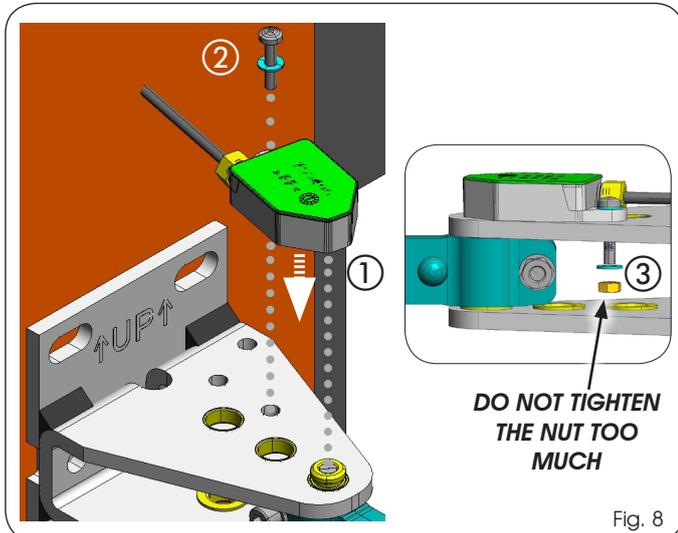

Fig. 8
3. Install the encoder on the rear bracket by correctly engaging it on the pin then fix it with the screw and nut supplied (Fig. 8 ref. ① ② ③).